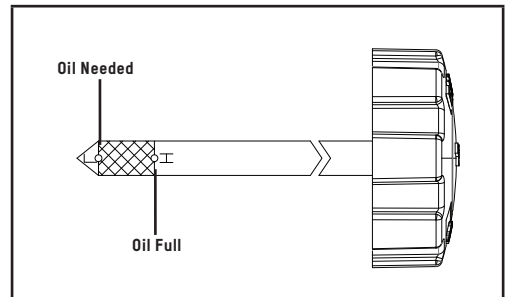

Figure 15B
3. Insert the oil cap/dipstick into the oil filler neck but do not screw it in, then remove it to check the oil level (Fig. 15B).
4. If the oil level is near or below the lower limit mark on the dipstick, remove the oil cap/dipstick, and fill with the recommended oil to the upper limit mark. Do not overfill (Fig. 15B).